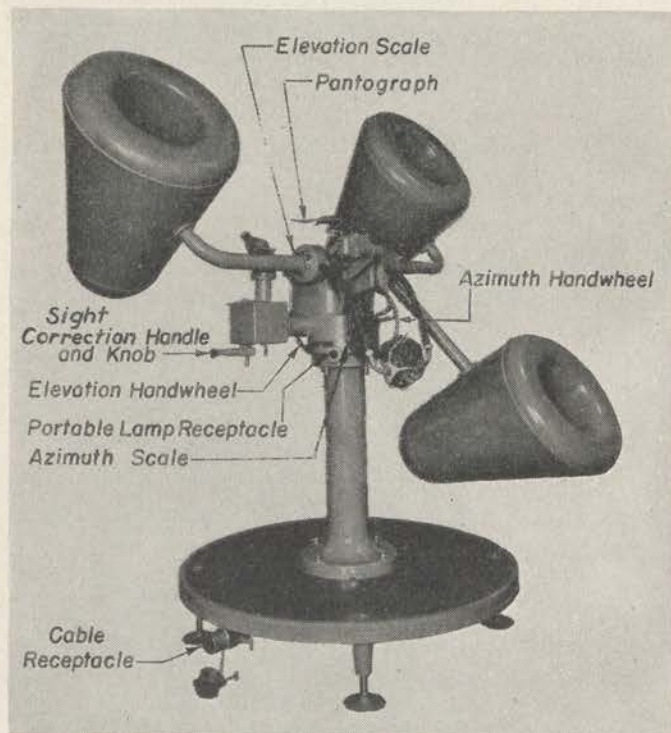

FIGURE 23.—Sound locator M2.
- (1) Two horn assembly.
- (2) Single horn assembly.
- (3) Corrector assembly (in carrying case).
- (4) Column.
(5) Platform.
(6) Cable and cable reels.
Q. Which horn is a common horn for the azimuth and elevation listeners? A. Upper right horn, figure 23.
Q. Give the nomenclature and state the purpose or use of each part of the M2 sound locator. A. See figure 23.
10. Target air speed scale.....	Air speed of airplane is indicated in miles per hour. Use knob (2) to set in correct air speed.
11. Pantograph pointer and ball.....	The corrector operator centers the pantograph ball on the cross lines of mirror (12).
Q. Point out the following parts and give the purpose or use of the part (fig. 23) :
Common horn.....	Used to collect sound for both azimuth and elevation. (Upper right horn, fig. 23.)
Elevation horn.....	Used to collect sound for azimuth. (Lower right horn, fig. 23.)
Azimuth horn.....	Used to collect sound for azimuth. (Left horn, fig. 23.)